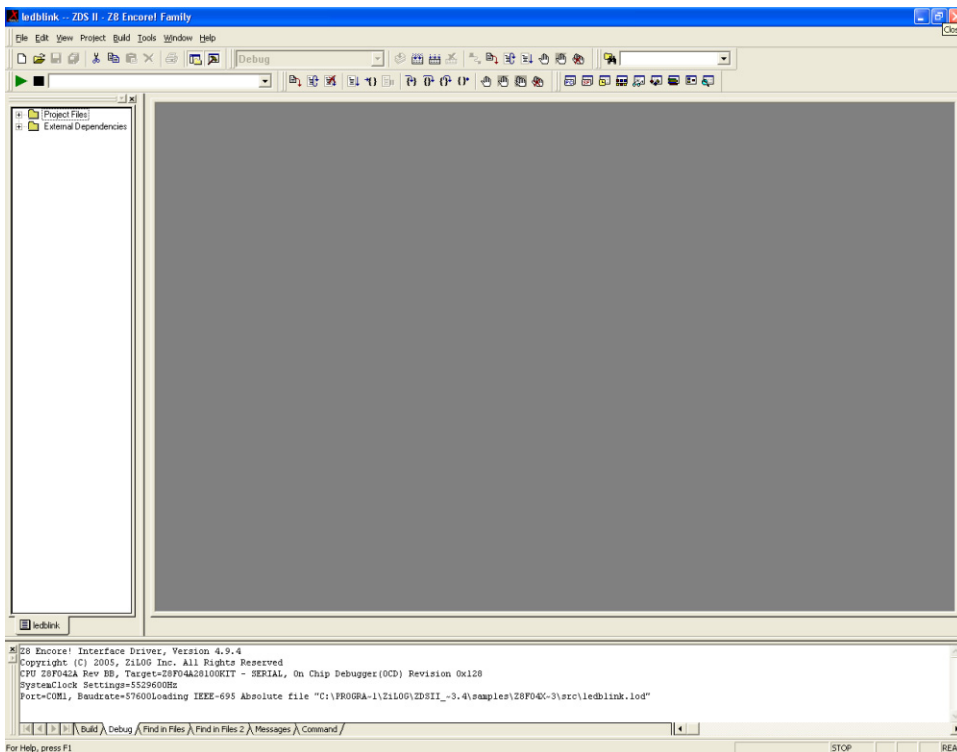

Figure 4. ZDS II Active Screen
11. Click **Go** icon  to start the program. The screen changes as displayed in Figure 4.